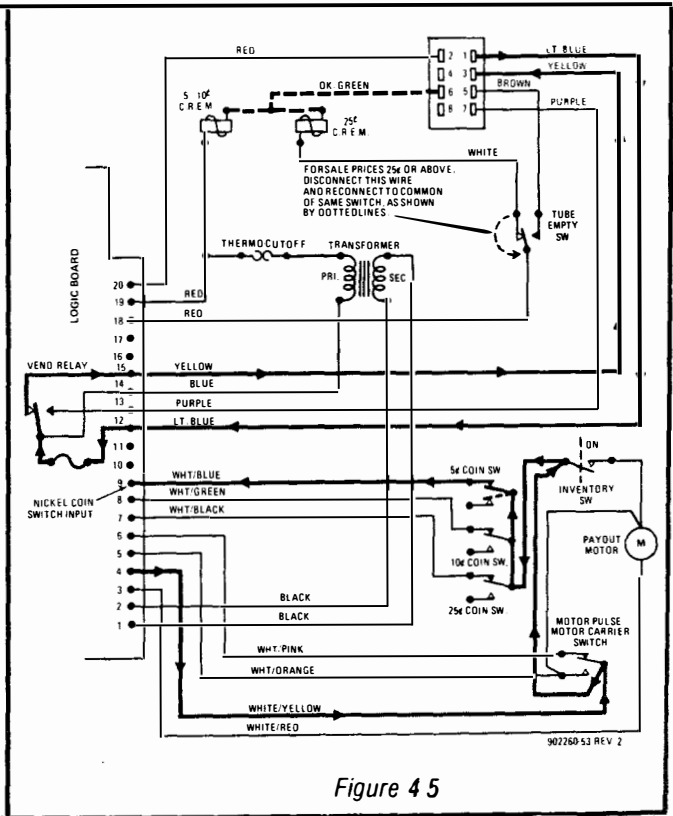

Figure 4-5
E. EXACT VEND—NICKEL INSERTIONS VEND PRICE SET @ 15¢ (Figure 4-5)